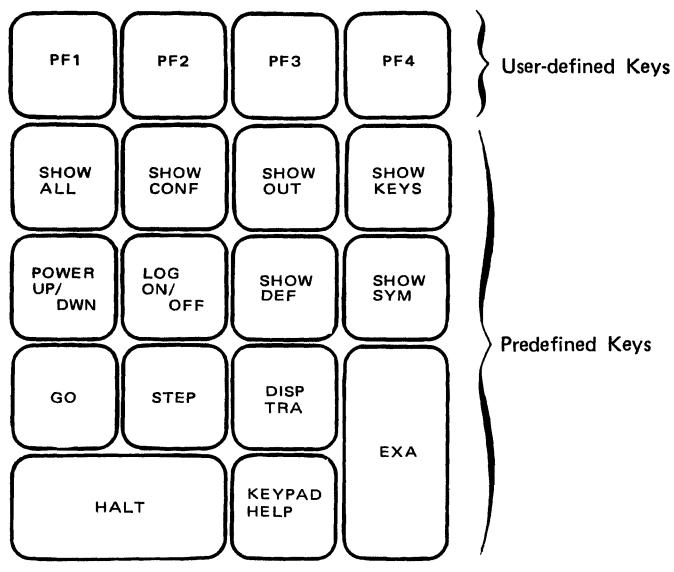

Figure 4-1 MDE/T-11 Command Keypad
**4.1.2.1 Predefined Keys** - Fourteen frequently used MDE/T-11 commands have been assigned to keys on the keypad (Figure 4-1). You can execute these commands by pressing a single key. When you enter predefined commands by using the keypad, the commands are echoed to the terminal and are recorded in a log file, if you have created one. (See Section 4.3.)